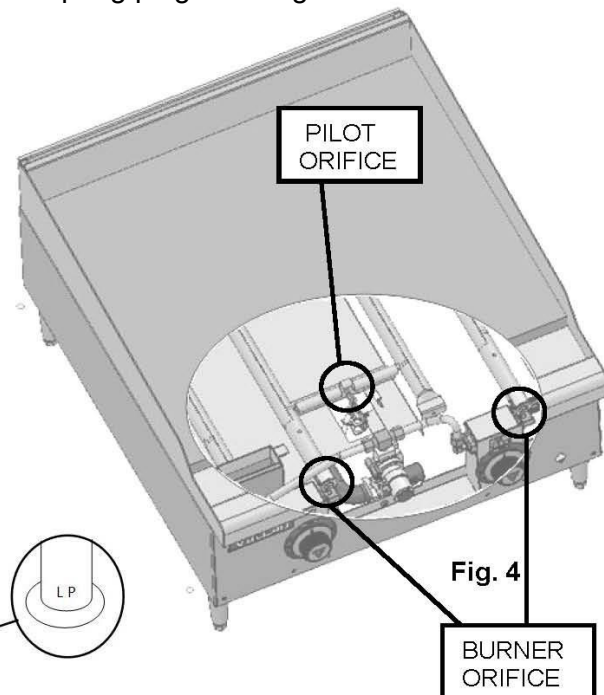

Fig. 4
Remove all natural gas burner orifices and install the provided propane burner orifices. See Fig. 4
1. Remove all pilot orifices and install the provided propane pilot orifices. See Fig 4.
1. Remove all natural gas burner orifices and install the provided propane burner orifices. See Fig. 4
2. Remove all pilot orifices and install the provided propane pilot orifices. See Fig 4.